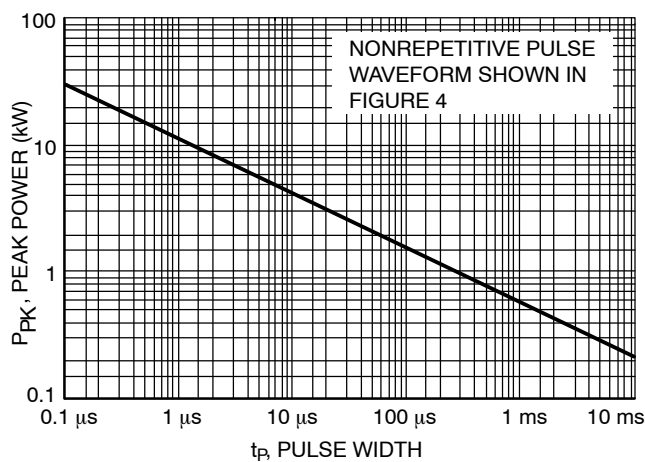
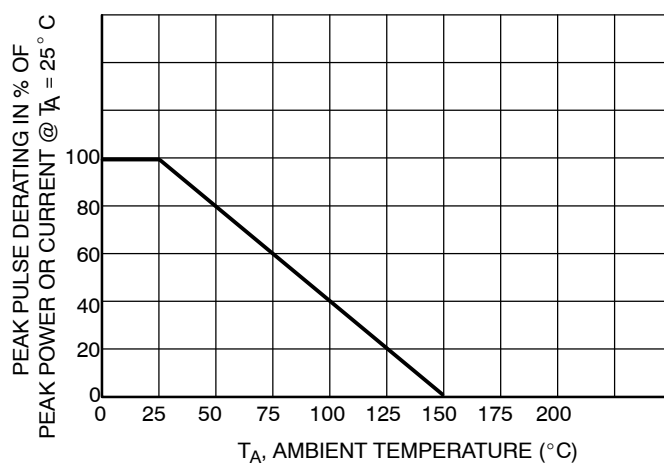
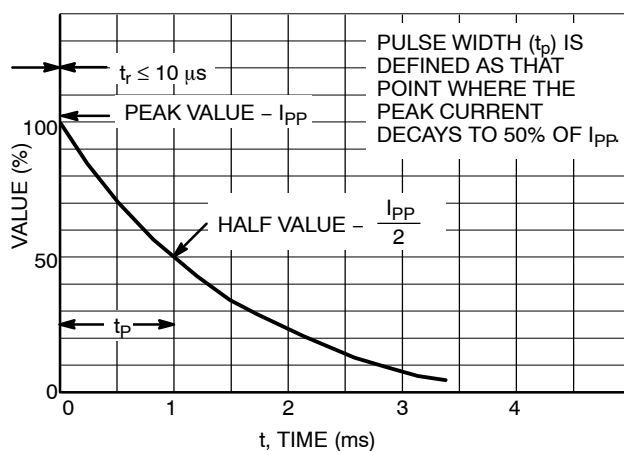
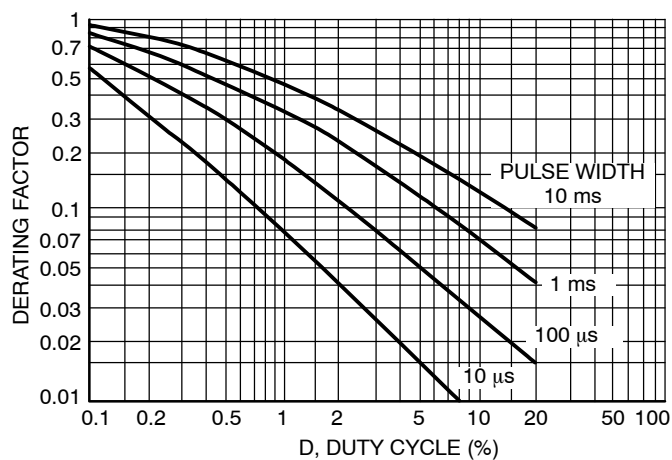

Figure 1. Pulse Rating Curve
Figure 2. Pulse Derating Curve
Figure 4. Pulse Waveform
Figure 6. Typical Derating Factor for Duty Cycle
1. Nonrepetitive current pulse per Figure 4 and derated above $T_A = 25^\circ\text{C}$ per Figure 2.
5. Surge current waveform per Figure 4 and derate per Figures 1 and 2.
The data of Figure 1 applies for non-repetitive conditions and at a lead temperature of 25°C. If the duty cycle increases, the peak power must be reduced as indicated by the curves of Figure 6. Average power must be derated as the lead or ambient temperature rises above 25°C. The average power derating curve normally given on data sheets may be normalized and used for this purpose.
At first glance the derating curves of Figure 6 appear to be in error as the 10 ms pulse has a higher derating factor than the 10 μ s pulse. However, when the derating factor for a given pulse of Figure 6 is multiplied by the peak power value of Figure 1 for the same pulse, the results follow the expected trend.